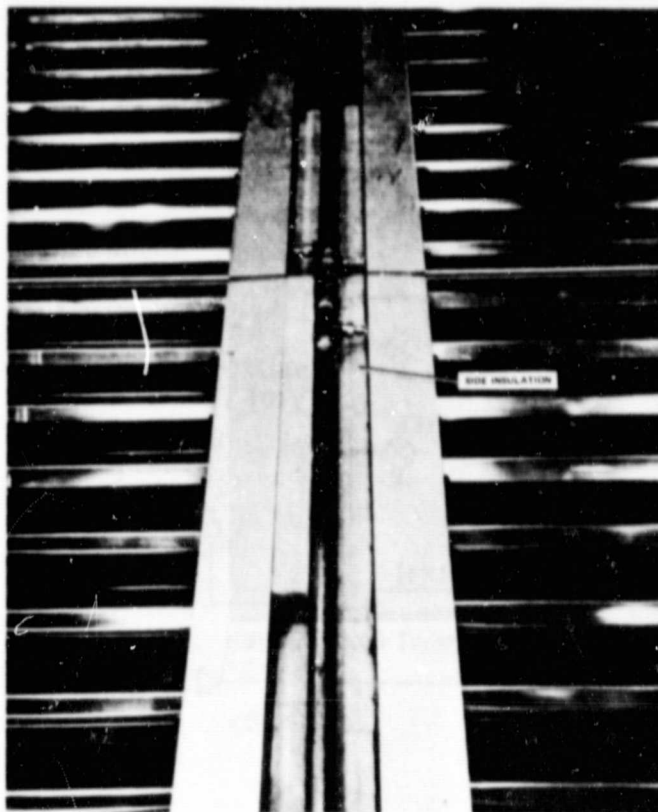

Figure 5-10. Insert Insulation Around Header Pipes
1. Apply flashing (aluminized, water-proof tape) inside the header channel over the gaps between channels as a moisture barrier. Slide the bottom layer of insulation under the pipes. Slit the side insulation to fit around the collector connections and insert on both sides of the pipe, (Figure 5-10).